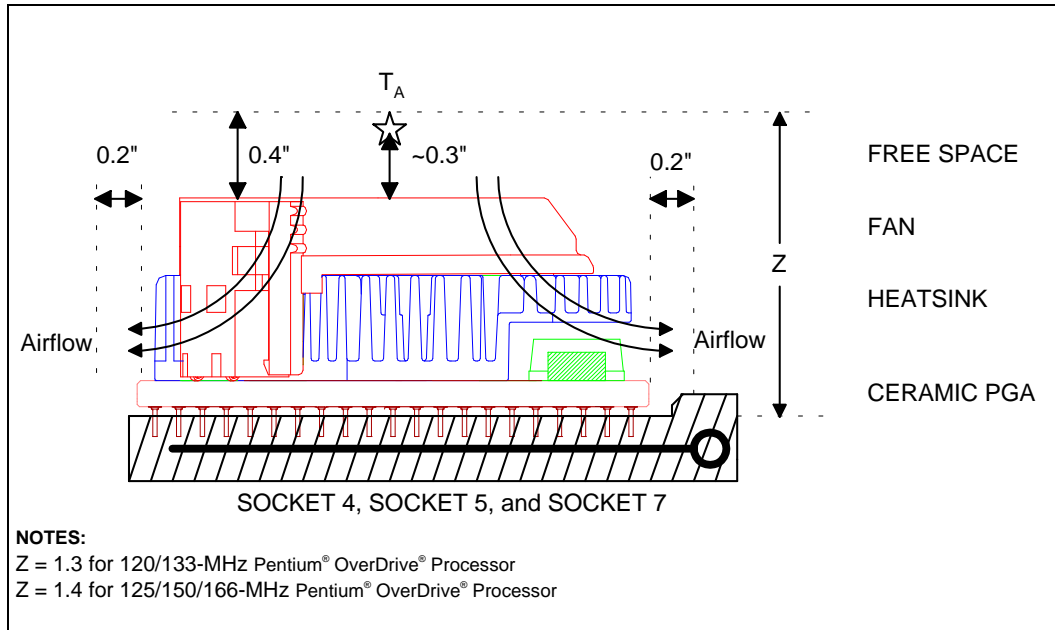

Figure 18. Illustrates physical space requirements for the Pentium® OverDrive® Processors
Both the Pentium OverDrive processors employ a fan/heat sink thermal management device. Clearance requirements must be met around the fan/heat sink to ensure unimpeded air flow for proper cooling. Figure 18 shows the Pentium OverDrive processor's fan/heat sink space requirements.
The Pentium OverDrive processors are shipped with an attached fan/heatsink for a complete thermal solution for the processor upgrade. The fan/heatsink cooling solution will properly cool the Pentium OverDrive processor provided the space requirements of Section 6.2 are met and the maximum air temperature entering the fan/heatsink (TA) does not exceed 45°C. The fan/heatsink inlet temperature (TA) is measured 0.3" above the centerline of the fan hub at the system maximum ambient operating temperature (See Figure 18).